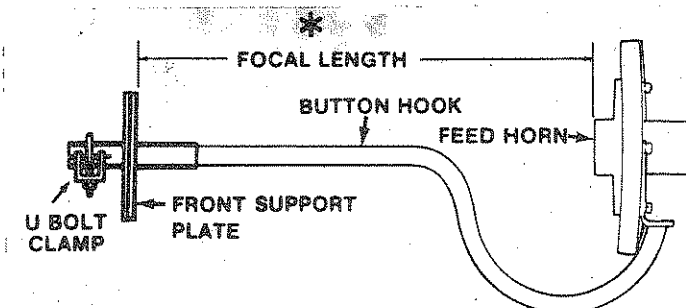

FIGURE 15
STEP 13. FOCAL LENGTH: The focal length of the CK-6020 is 20". This distance should be set between the focal point reference of the feedhorn and the front surface of the support plate of the buttonhook. Focal length adjustment is accomplished by loosening the U-bolt holding the buttonhook assembly in support assembly of antenna and sliding it in or out as necessary. See Figure 15.